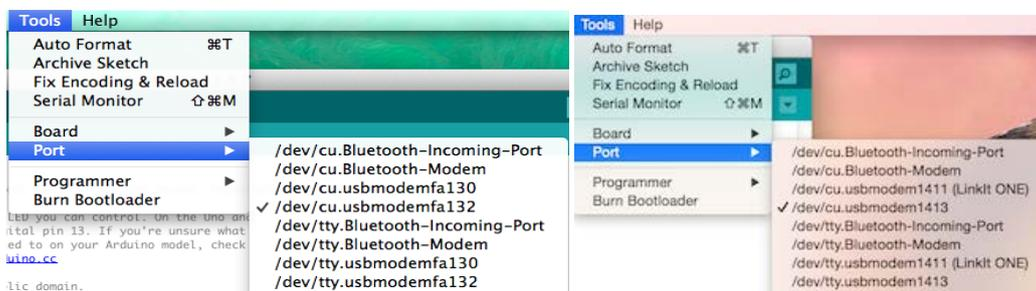

Figure 14 Setting the LinkIt ONE development board's port number in the Arduino IDE on different versions of Mac OS X
- In the Arduino IDE on the **Tools** menu, point to **Port**. There will be two **/dev/cu.usbmodem(xxxx)** devices for a LinkIt ONE development board. Click the one with larger suffix number but the one without the **(LinkIt ONE)** suffix, as shown in Figure 14.